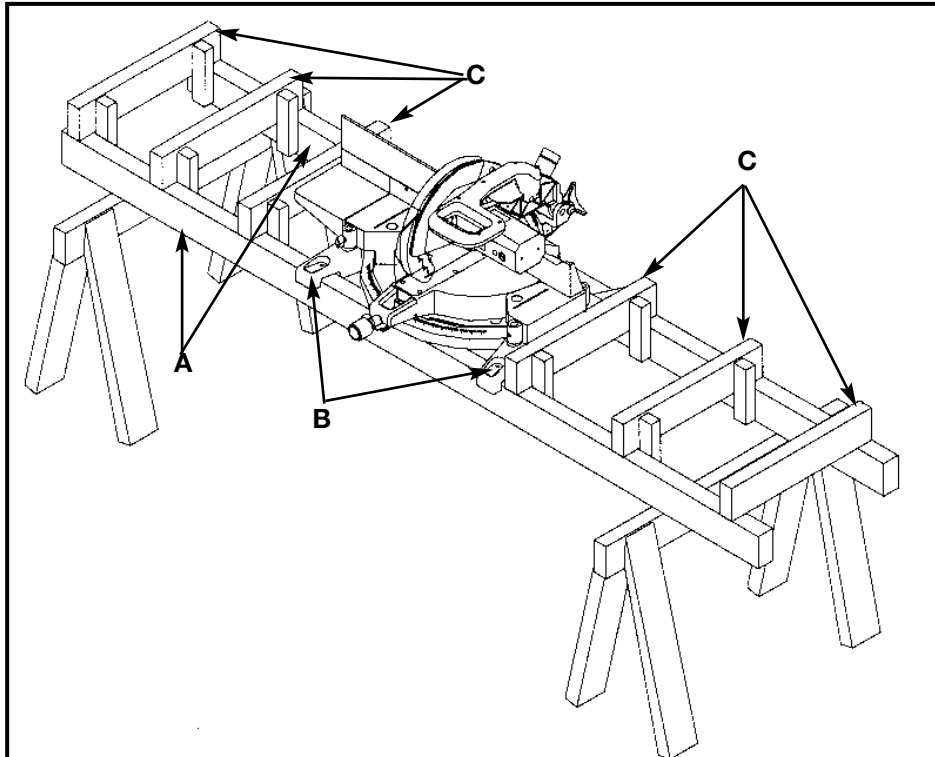

Fig. 36
For support when cutting long pieces, construct a work support extension. Fig. 36 illustrates the miter saw mounted on two standard 2 x 4's (A). Fasten the four mounting legs (two of which are shown at (B) Fig. 36) to the 2 x 4's, using four screws (not supplied) through the four holes in the mounting legs. The length of the 2 x 4's (A) can vary, depending on the workpiece.